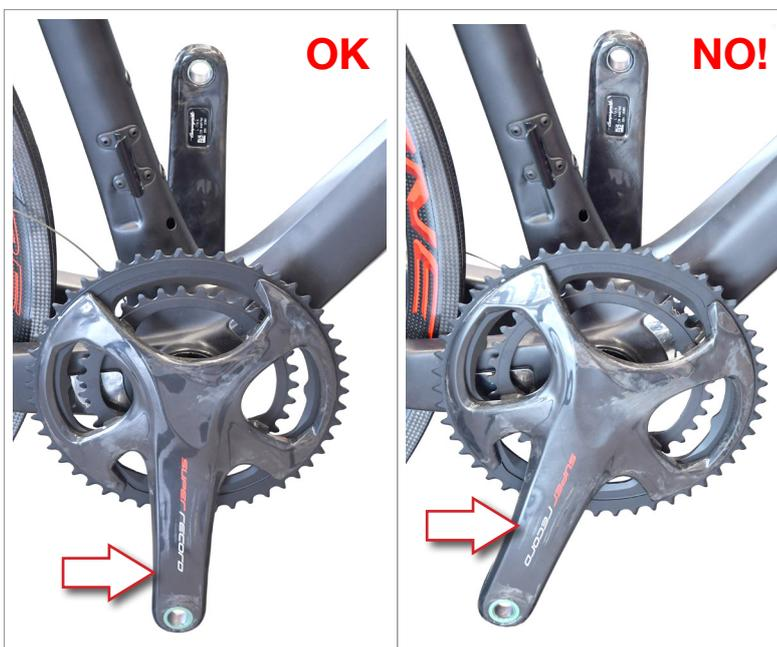

Fig.6
- Make sure that the hand cranks are correctly aligned (Fig. 6).